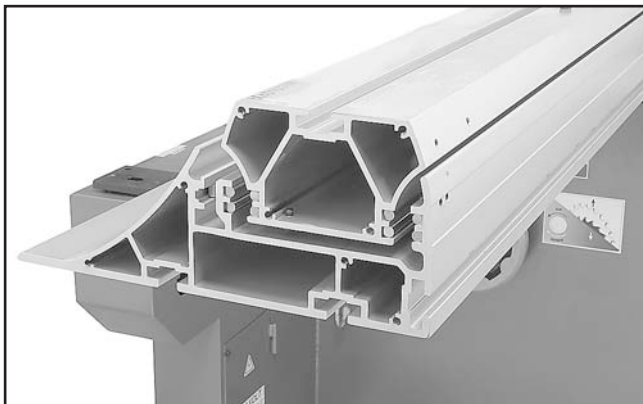

Figure 19. Sliding table saw upside down.
- Turn the sliding table assembly upside down, as shown in **Figure 19**.